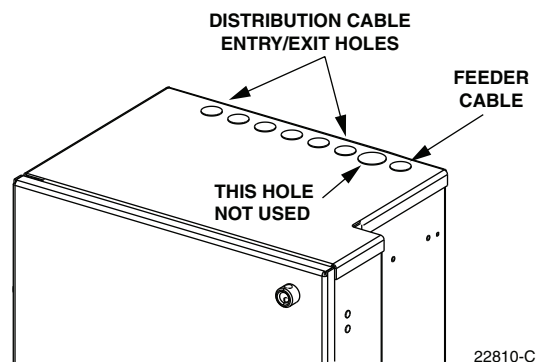

Figure 15. Cable Entry/Exit Holes
1. Locate the cable entry/exit hole (on top of the cabinet) that is specified for feeder cable installation as shown in Figure 15.